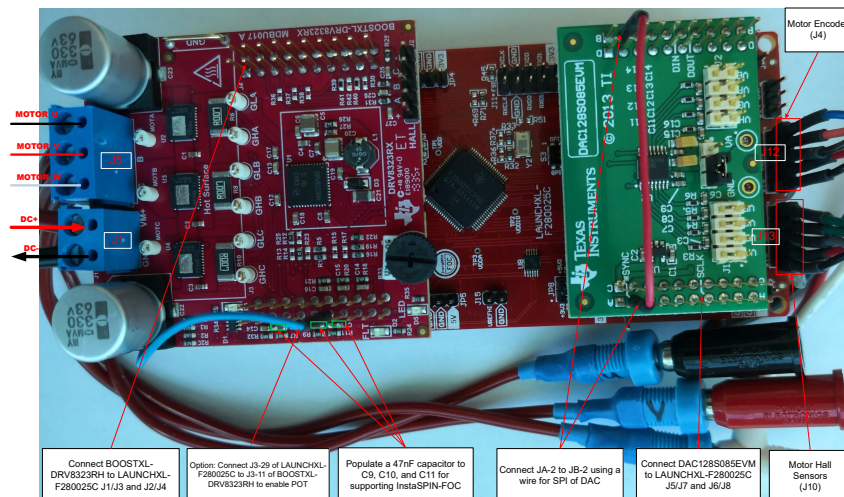

Figure 2-4. LAUNCHXL-F280025C Connects BOOSTXL-DRV8323RH and DAC128S085EVM
- Make sure that the following items are set as described below, and then connect **BOOSTXL-DRV8323RH** to J1/J3 and J4/J2 site of **LAUNCHXL-F280025C** as shown in **Figure 2-4**.
- Connect the motor, encoder, and hall sensors to the kits as described in **Table 2-2** and shown in **Figure 2-4**.
- Connect a supply voltage ranging from 6 to 54 V from a battery or a DC voltage source to the voltage supply pins as shown in **Figure 2-4**. Power should only be applied when instructed to do so in **Section 2.5**, keep disconnected otherwise.